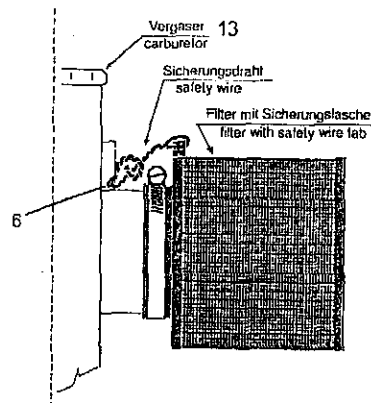

Bild 2
■ **CAUTION:** Make sure that the new circlip will be fitted as depicted in fig. 2 Detail A. To warrant a tight fit pay attention to correct position of the circlip ends (3).